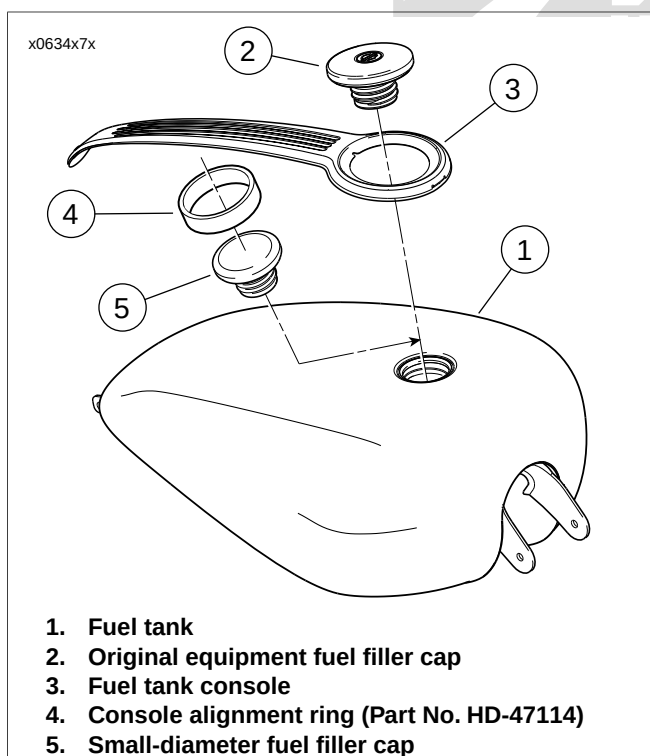

Figure 4-13. Replacing Console: XL 1200C
2. See Figure 4-13. Remove the original fuel filler cap (2) from the fuel tank (1) and set it aside. Obtain a small diameter Harley-Davidson fuel filler cap (5) and screw it into the fuel filler opening.